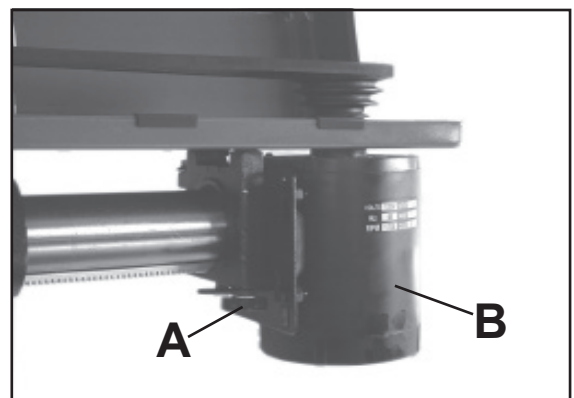

Figure 26
3. Release the tension on the belt by loosening the belt tension lock (A-Fig.26) and pull forward on the motor (B-Fig. 26).